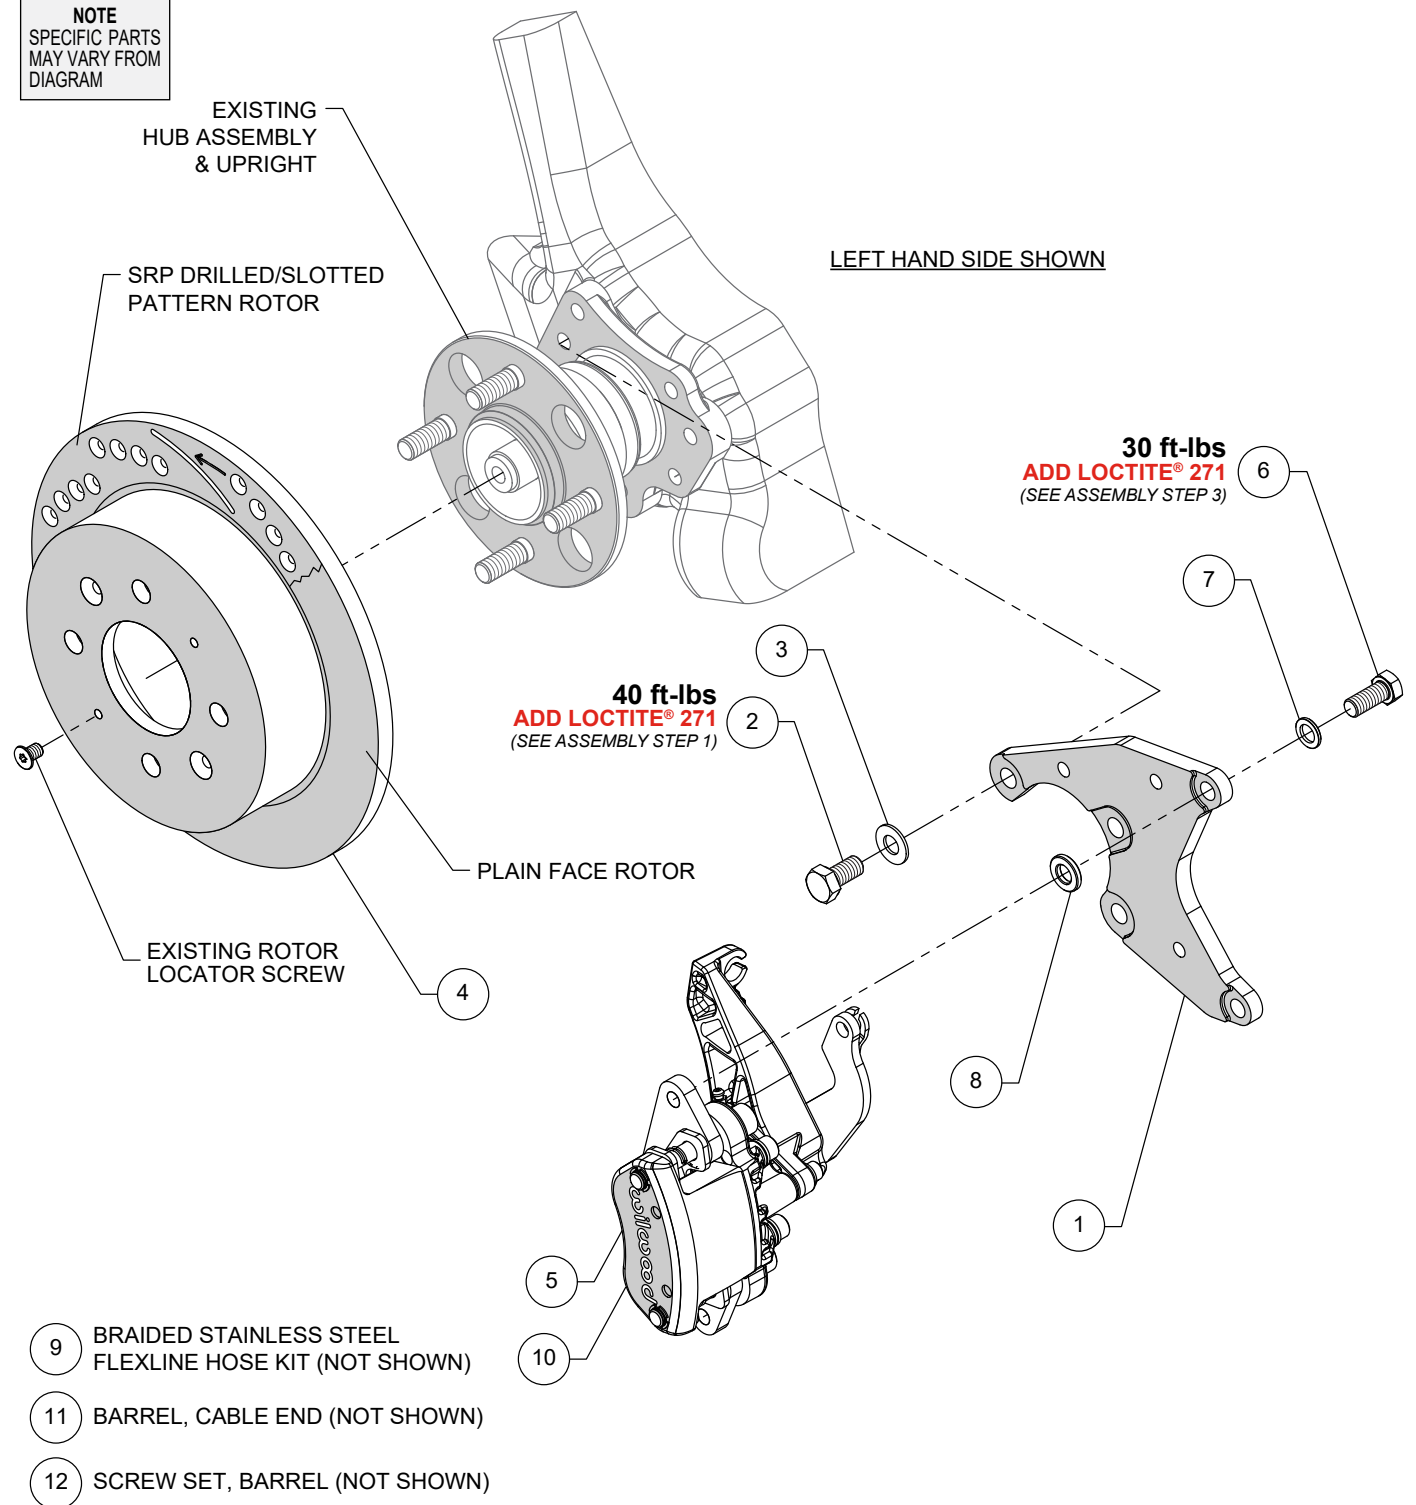

Figure 1. Typical Installation Configuration
NOTE: Numbers in parenthesis refer to the parts list and Figure 1 on the preceding pages.
STEP 1 The caliper mount bracket (1) should initially be installed with clean, dry threads on the mounting bolts. Orient the bracket, as shown in Figure 1 and Photo 1, and install using bolts (2) and washers (3). **NOTE:** The bracket must fit squarely against the mount bosses on the upright. Inspect for interference from casting irregularities, machining ridges, burrs, etc. Apply red Loctite® 271 to the bolt threads (2) and torque to value shown in Figure 1.
STEP 2 Slide the rotor (4) onto the hub. **NOTE:** The rotor must fit flush against the hub flange or excessive rotor run out may result. Install the existing rotor locator screw to keep the rotor in place while continuing with the installation, Photo 2.
STEP 3 Orient the brake caliper (5), as shown in Figure 1, and install using bolts (6) and washers (7). Place one .125" thick spacer (8) on each bolt between the bracket (1) and parking brake caliper (5) as shown in Figure 1. Apply red Loctite® 271 to the threads, and torque to value shown in Figure 1.